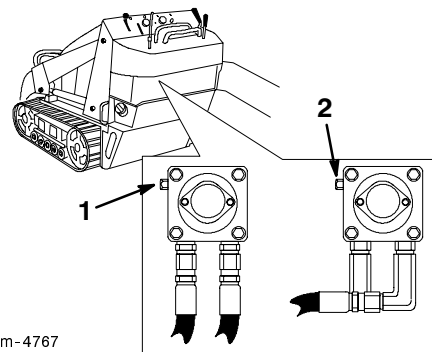

Figure 13
3. Using a wrench, turn the tow valves on the hydraulic pumps twice counter-clockwise (Fig. 13).